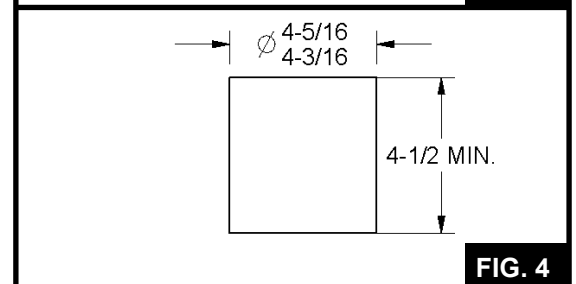

FIG. 4
- ◆ End Bushing Outer Sleeve Tool (**See FIG. 4**)